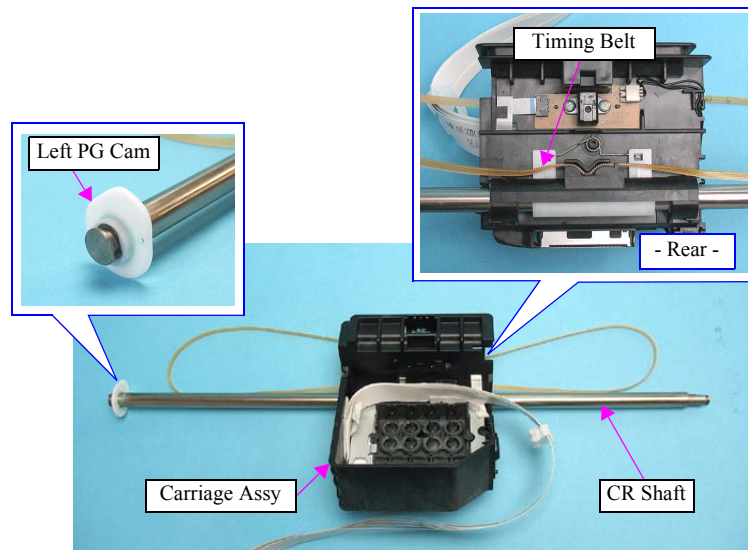

Figure 4-138. Removing the Carriage Assy (4)
- When installing the Left PG Cam, install it in the orientation shown in Figure.4-138.